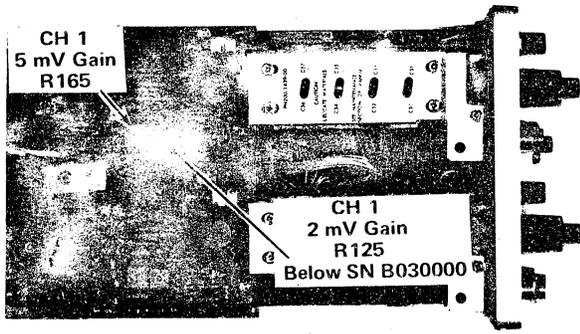

Fig. 5-12. Location of CH 1 5 mV Gain R165 (all SN) and CH 1 2 mV Gain R125 (Below SN B030000).
- f) Adjust CH 1 2 mV Gain Adjustment, R195 (see new Fig. 5-12) for a 250 mV (Peak-to-Peak) display on the Test Oscilloscope.
- j) Adjust-CH 1 5 mV Gain Adjustment, R165 (see new Fig. 5-12) for 4 divisions of deflection.